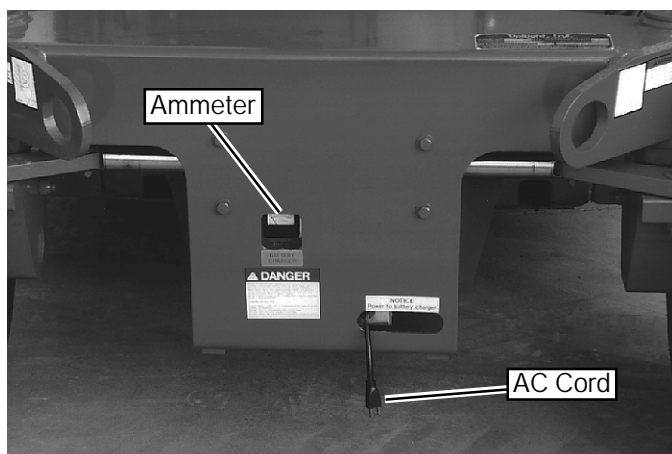

Figure 2-7: Battery Charger
3. Connect extension cord (minimum 12 gauge (1.5 mm) conductor and maximum 50 ft. (15 m) in length) to charger plug located through the opening in front of the chassis (Figure 2-7). Connect extension cord to properly grounded outlet of proper voltage and frequency.